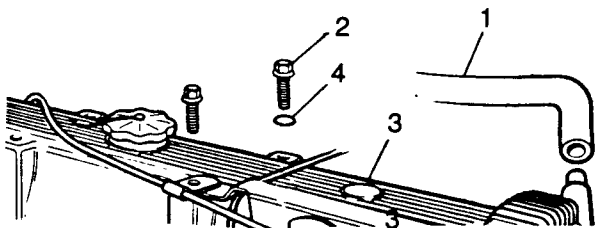

Fig B4.79
- (3) Refer to Fig B4.79. Disconnect the breather pipe (1) from the front of the cam cover (3).
- (4) Starting from the centre of the cover slacken the eight flanged bolts (2).
- (5) Remove the bolts and O-rings (4).
- (6) Move the choke and accelerator cables to one side and lift off the cover over the camshaft carrier.
- (7) Remove the gasket.
- (1) Fit a new cover gasket.
- (2) Replace the cam cover, fitting it under the choke and accelerator cables.
- (3) Fig B4.79 still applies. Examine the O-ring seals (4) for damage or wear. Replace if necessary.
- (4) Fit the flanged bolts (1) and O-rings (2). Tighten the bolts evenly to 8 N.m., working diagonally from the centre. Check that the O-rings (4) stand proud of the bolt flange when the bolts are tightened.
- (5) Refit the air intake hose and tighten the hose clamps.
- (6) Reconnect the breather pipe to the front of the cam cover (Fig B4.79,(1)).